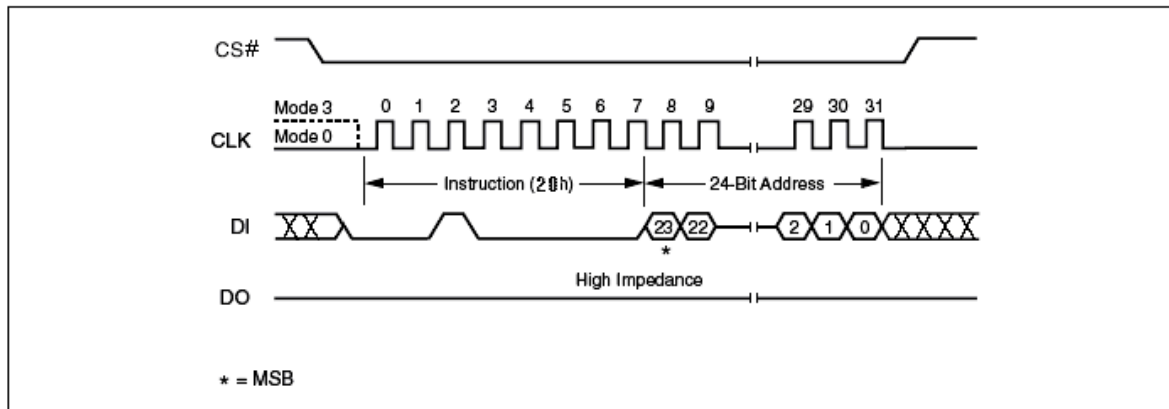

Figure 29. Sector Erase Instruction Sequence Diagram
The instruction sequence is shown in Figure 29. Chip Select (CS#) must be driven High after the eighth bit of the last address byte has been latched in, otherwise the Sector Erase (SE) instruction is not executed. As soon as Chip Select (CS#) is driven High, the self-timed Sector Erase cycle (whose duration is t_{SE}) is initiated. While the Sector Erase cycle is in progress, the Status Register may be read to check the value of the Write In Progress (WIP) bit. The Write In Progress (WIP) bit is 1 during the self-timed Sector Erase cycle, and is 0 when it is completed. At some unspecified time before the cycle is completed, the Write Enable Latch (WEL) bit is reset.